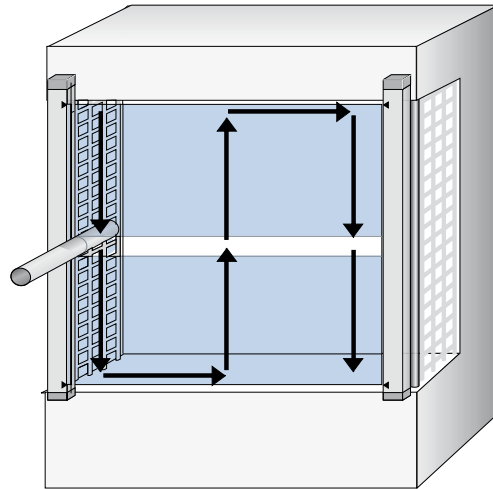

Figure 17: Test rod check: Step 1
1. Move the test rod slowly through the protective field to be protected (e.g., machine opening as indicated by the arrow, see figure 17, page 27).